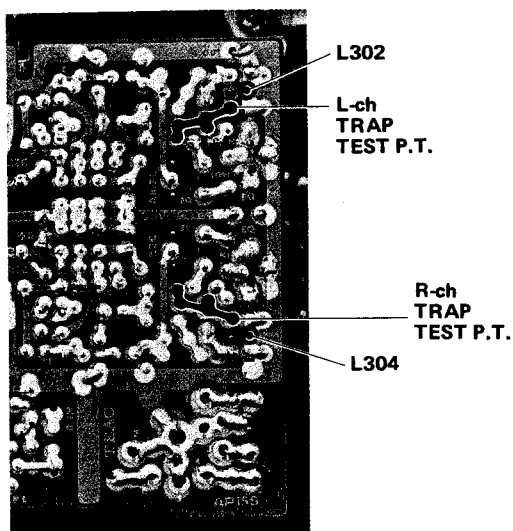

Fig. 8-10 Bias Trap Test Points
3. Connect a VTVM or oscilloscope from ground to the junction of L302 and C321 (L-ch) and from ground to the junction of L304 and C344 (R-ch). See Fig. 8-10.